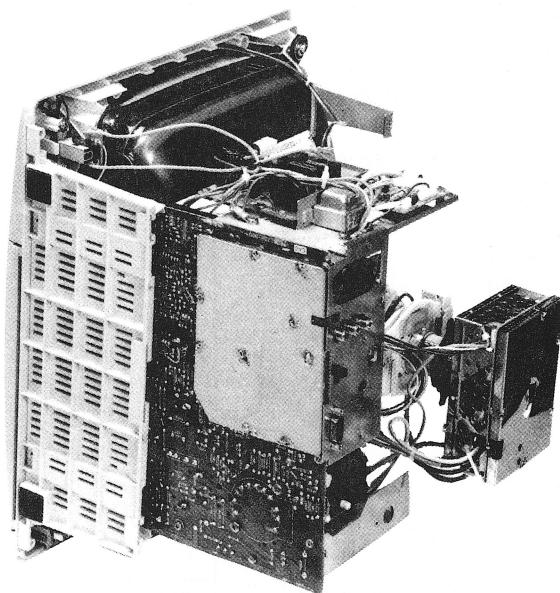

Fig. 6
2. Repairing of main chassis can be done easily, if stood as shown in **Fig. 6**.